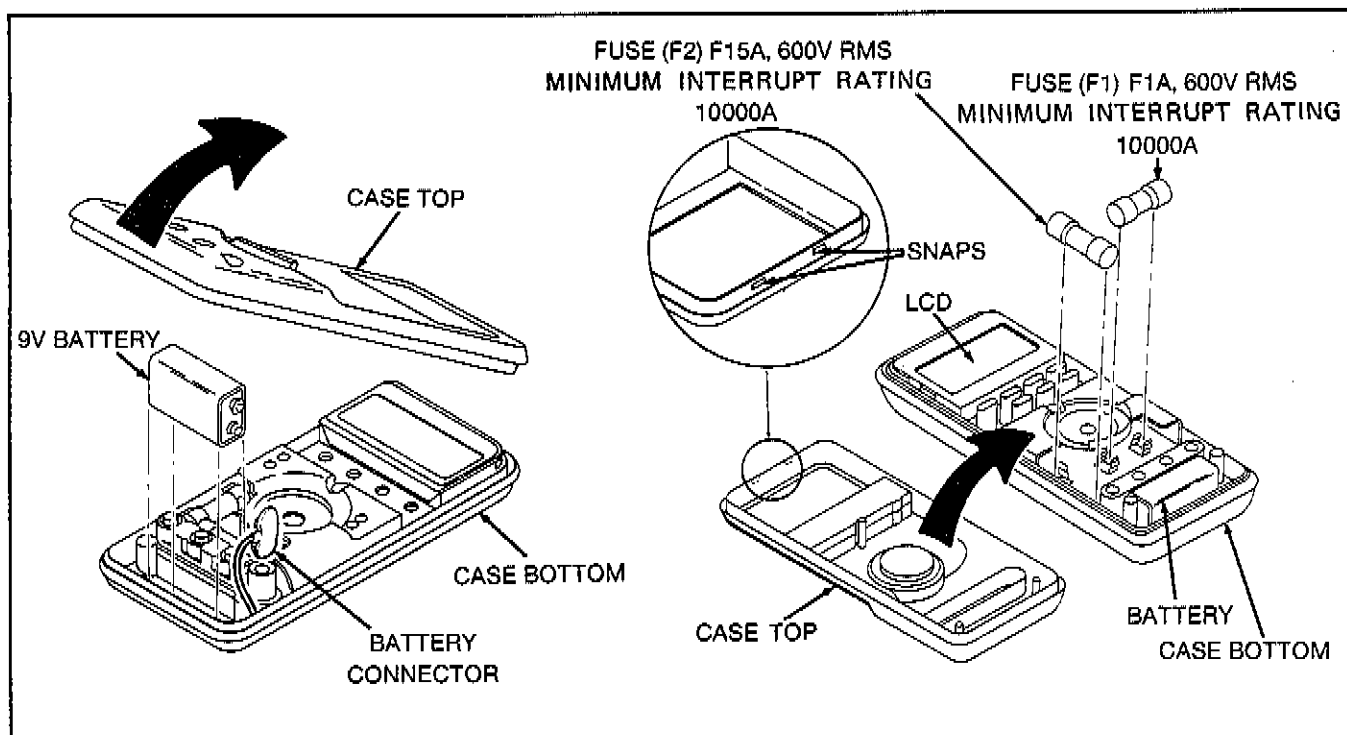

Figure 3-1. Battery and Fuse Replacement
**TO AVOID ELECTRICAL SHOCK, REMOVE THE TEST LEADS AND ANY INPUT SIGNALS BEFORE REPLACING THE BATTERY OR FUSES. TO PREVENT DAMAGE OR INJURY, INSTALL ONLY QUICK ACTING FUSES WITH THE AMP/VOLT RATINGS SHOWN IN FIGURE 3-1.**
The meter is powered by a single 9V battery (NEDA 1604, 6F22, or 006P). Referring to Figure 3-1, use the following procedure to replace the battery:
Referring to Figure 3-1, use the following procedure to examine or replace the meter's fuses: